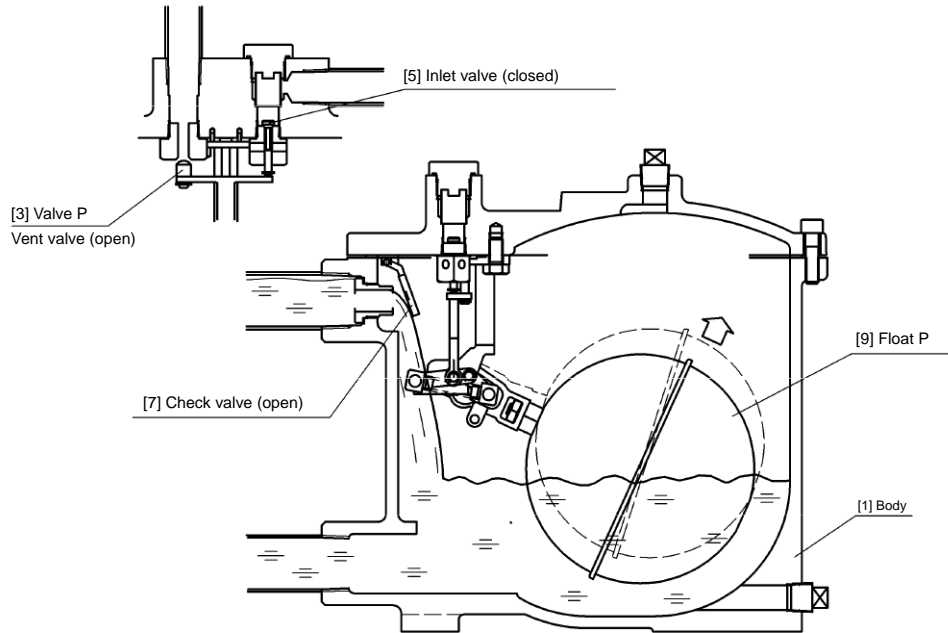

Fig. 3: State 1
Condensate flows into body [1] via the condensate inlet and check valve [7], and float (P) [9] moves upward due to buoyancy. (See Fig. 3.)